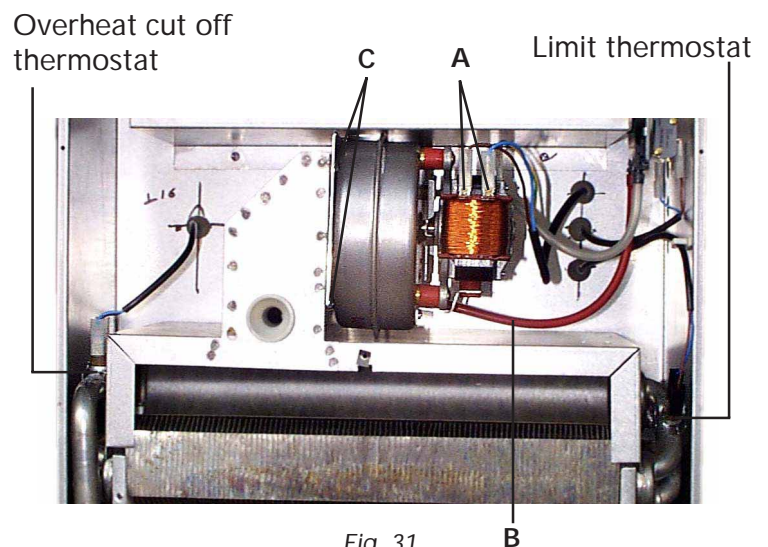

Fig. 31
## 7.10 Removal of fan (fig. 31)
## 7.11 Limit thermostat, or overhear cut off thermostat (fig. 31)
- Identify the location of thermostat from fig. 31